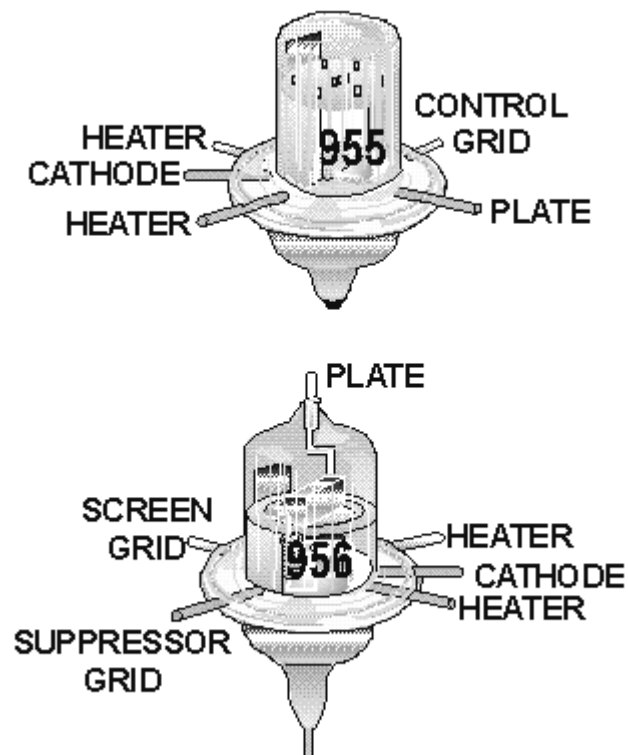

Figure 2-10.—Acorn tubes.
**ACORN TUBES**, as shown in figure 2-10, are available for use as diodes, triodes, or pentodes. Acorns are very small tubes that have closely spaced electrodes and no bases. The tubes are connected to their circuits by short wire pins that are sealed in the glass or ceramic envelope. Because of their small size, acorn tubes are usually used in low-power uhf circuits.